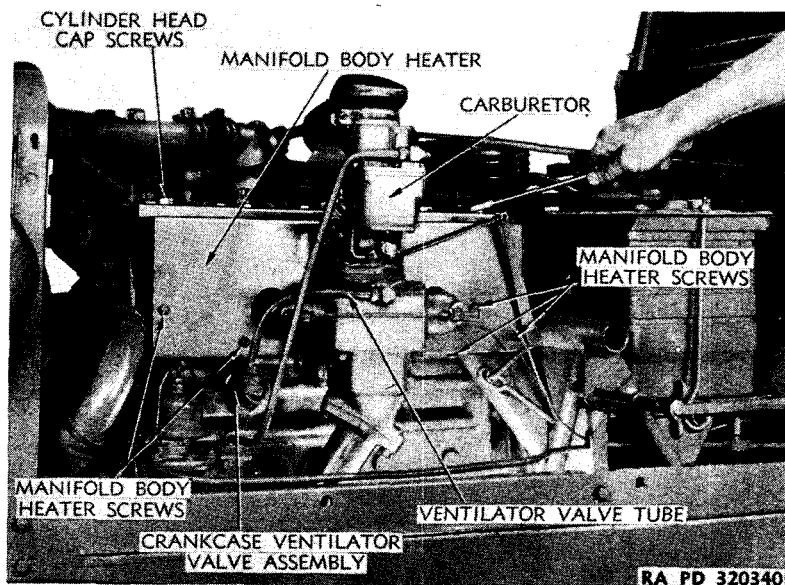
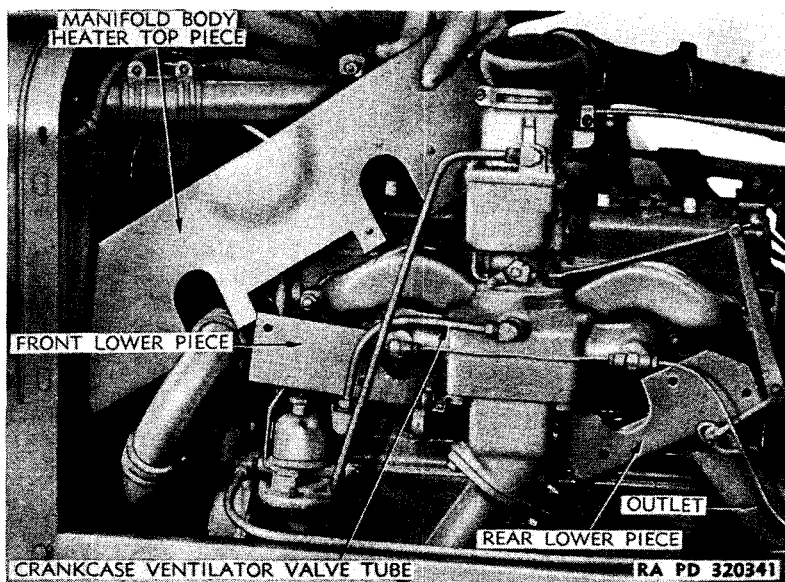

Figure 39—Removing Cylinder Head Cap Screw
Figure 40—Removing Top of Heater
(1) **REMOVE MANIFOLD BODY HEATER.** Remove engine hood side plates and engine hood. Remove three cylinder head cap screws holding heater to engine (fig. 39). Remove five screws holding upper part of heater to lower parts. Remove one screw holding rear end plate of heater to top of heater. Remove one bolt holding heater outlet to dash, and one screw holding outlet to under part of heater. Maneuver top part of heater out toward radiator and remove (fig. 40). Remove remaining three parts of heater.